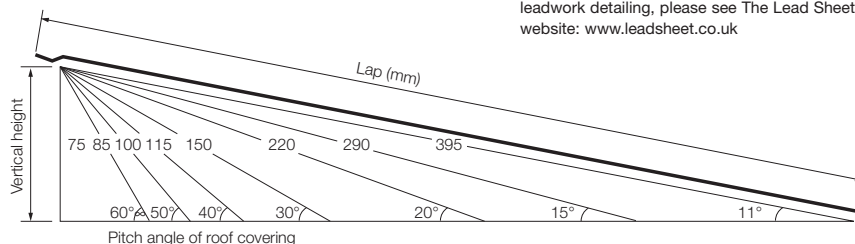

Fig. 21 – Laps for lead flashings
Flashings at the head of slated or tiled roofs should lap the top course slates or tiles by a distance which will vary according to the pitch of the roof (see Fig. 21).
- 5 Extend lead down over the slate to lap the surface a minimum of 150mm (see Fig. 21, page 19 for correct lap for the roof pitch) and secure the bottom edge with a clip to resist wind uplift.